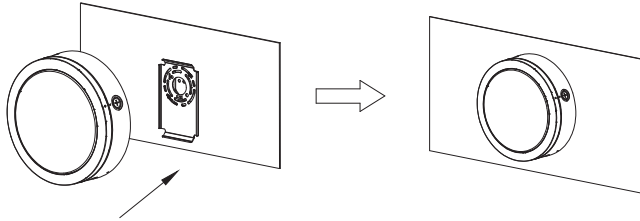

Fig.5
5. Fix the lighting fixture to the mounting bracket. (Fig. 5)